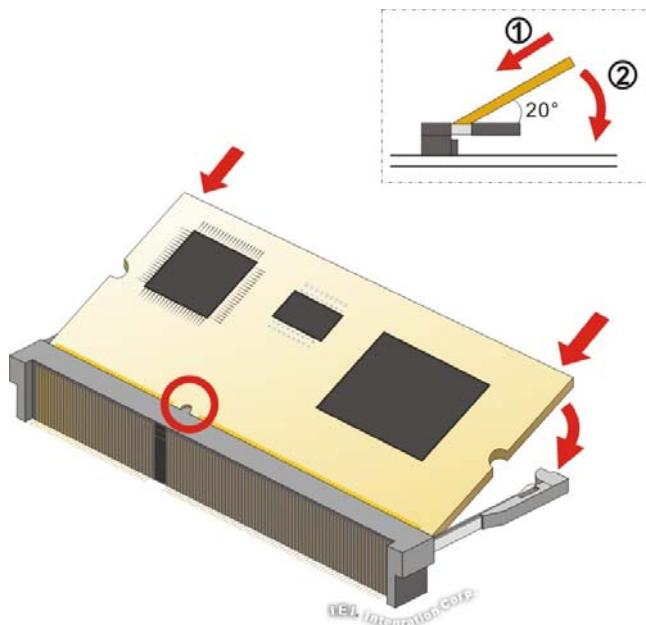

Figure 3-14: iRIS-2400 Module Installation
Step 4: Align the iRIS-2400 module with the iRIS-2400 module slot. Align the notch on the module with the notch on the iRIS-2400 module slot (Figure 3-14).
Step 5: Insert the iRIS-2400 module. Push the module in at a 20° angle (Figure 3-14).
Step 6: **Seat the iRIS-2400 module.** Gently push downwards and the arms clip into place (**Figure 3-14**).